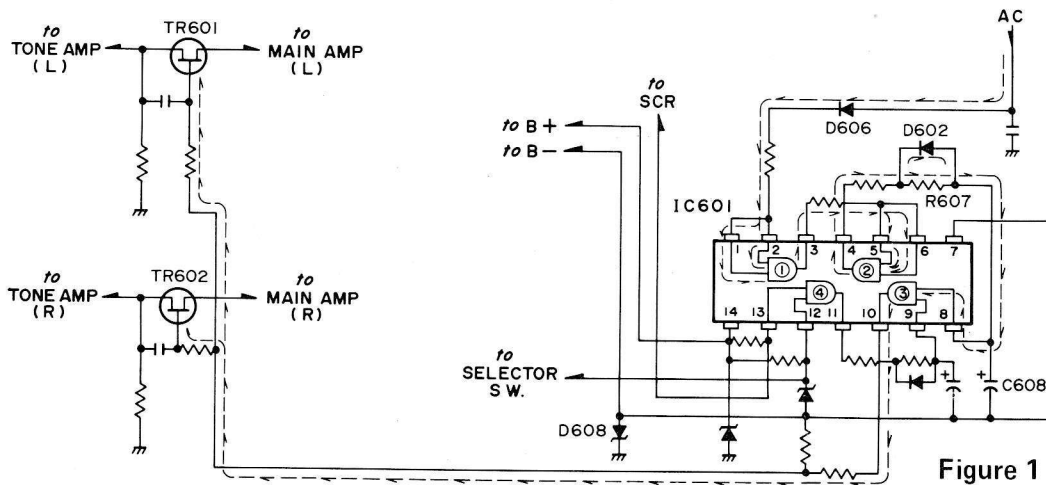

Figure 1
1. Turning the receiver on and off (Figure 1)